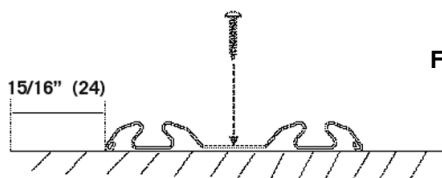

FIGURE 4
Locate leading edge of floor track $15/16"$ (24) back from front face of jamb, so doors will hang plumb (Figure 4).